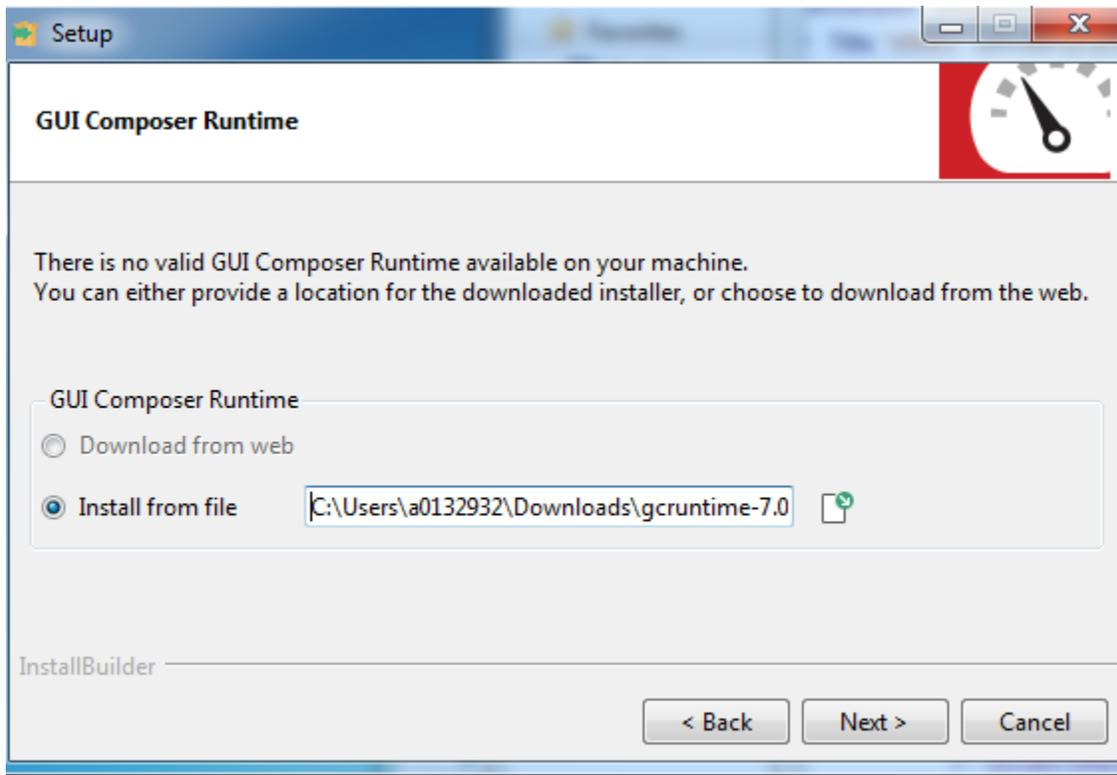
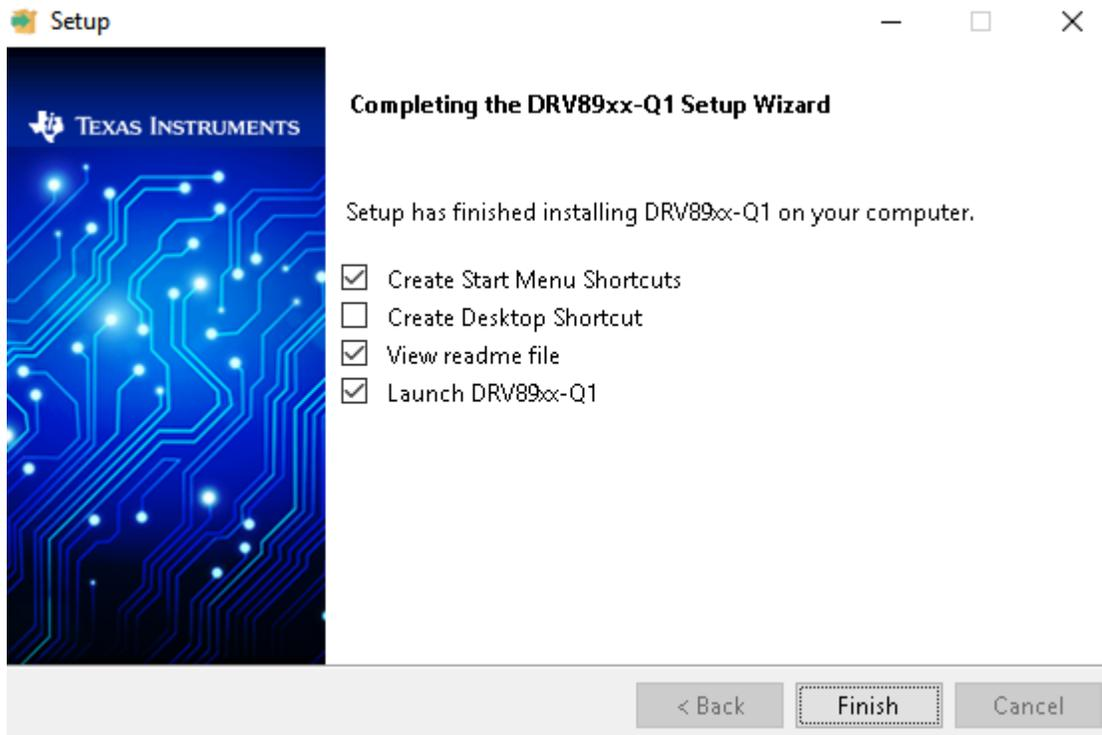

Figure 7. GUI Composer Runtime
Figure 8. Installation Complete
- Step 6. If you don't install GUI Composer Runtime before, please install it from website or your local hard disk (see Figure 7). Runtime v7.0.0 can be downloaded from <https://dev.ti.com/gallery/info/MotorDriversBSM/DRV89xx-Q1>. We recommend running latest version available. You may be asked to add an extension to your browser and install TI Cloud Agent. After GUI composer runtime and DRV89xx-Q1 GUI are installed, you will go step 9 and check Figure 8.
Step 9. After config "Start Menu" and "Desktop" shortcut setting, Click the *Finish* button to close the installer and begin using the GUI (see Figure 8).